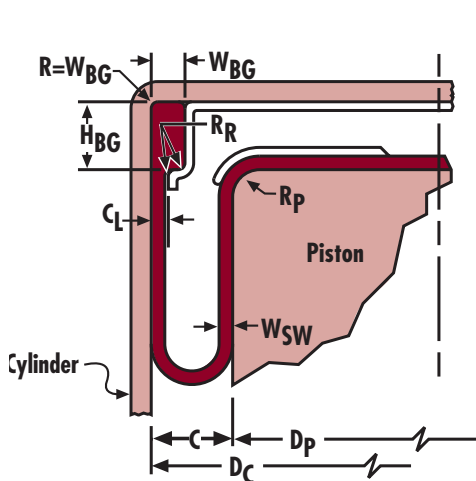

Fig. 32: Axial Compression with Stamped Retainer Plate
**Stamped Retainer Plate (fig. 32)** – A stamped retainer plate can be utilized, as is shown, which pulls up on the bead and seals against the cylinder bore. This is a very economical design which utilizes low cost hardware and ease of assembly. The piston diaphragm retainer assembly slides up inside the cylinder shell and the retainer is fastened to the top of the shell with seal nuts.